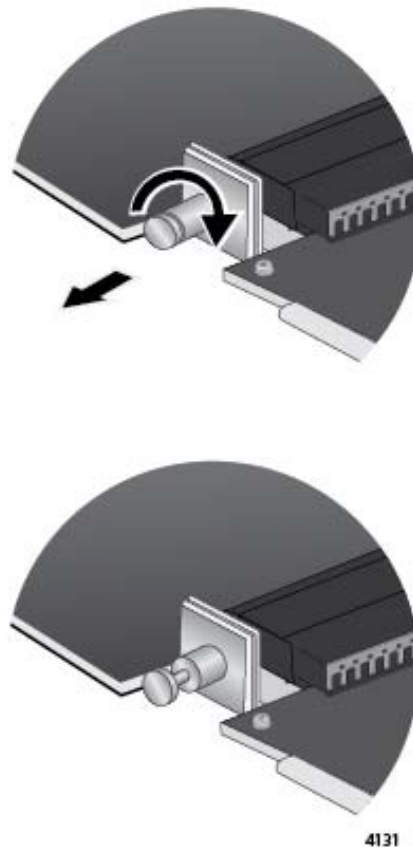

Figure 179. Retracting the Retaining Pin on the AT-SBx81XLEM Line Card
4. With your thumb and forefinger, pull out the retaining pin on the side of the line card and turn it clockwise one quarter turn until it remains in the retracted position. Refer to Figure 179.